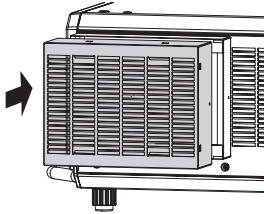

Fig. 1
**1) Attach the long life filter cover to the long life filter mount clasp. (Fig. 1)**